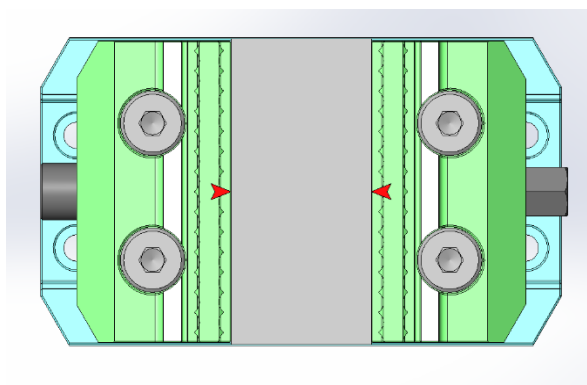

Figure 5 Measured points of repeatability
*2 Repeatability is measured center part of the master work grasped by the smooth surface of the combination hard jaws. (Around the arrows in Figure 5) The further away from the center, the greater the repeatability.